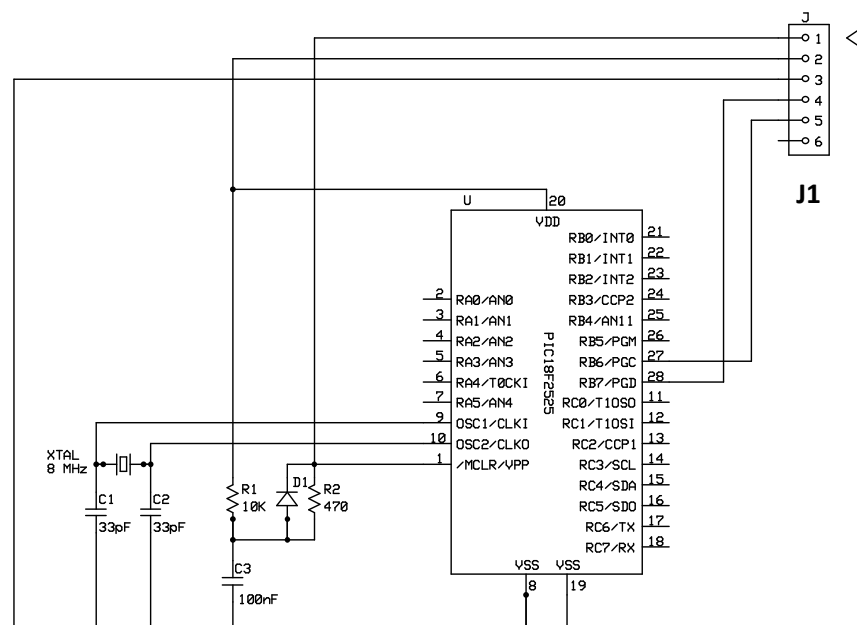

Figure 1.1
- Wire the schematic in Figure 1.1 on your breadboard